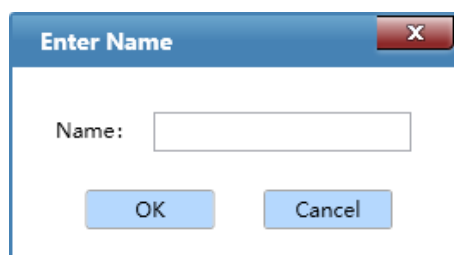

Figure D- 9.2b. Abs Quant Analysis Interface - Enter Name Dialog Box
- < **Save Std Curve** >: user can click < **Save Std Curve** > and enter a name in the enter name dialog box for the standard curve file to save; click < **OK** > to confirm, as shown in figure D-9.2b.